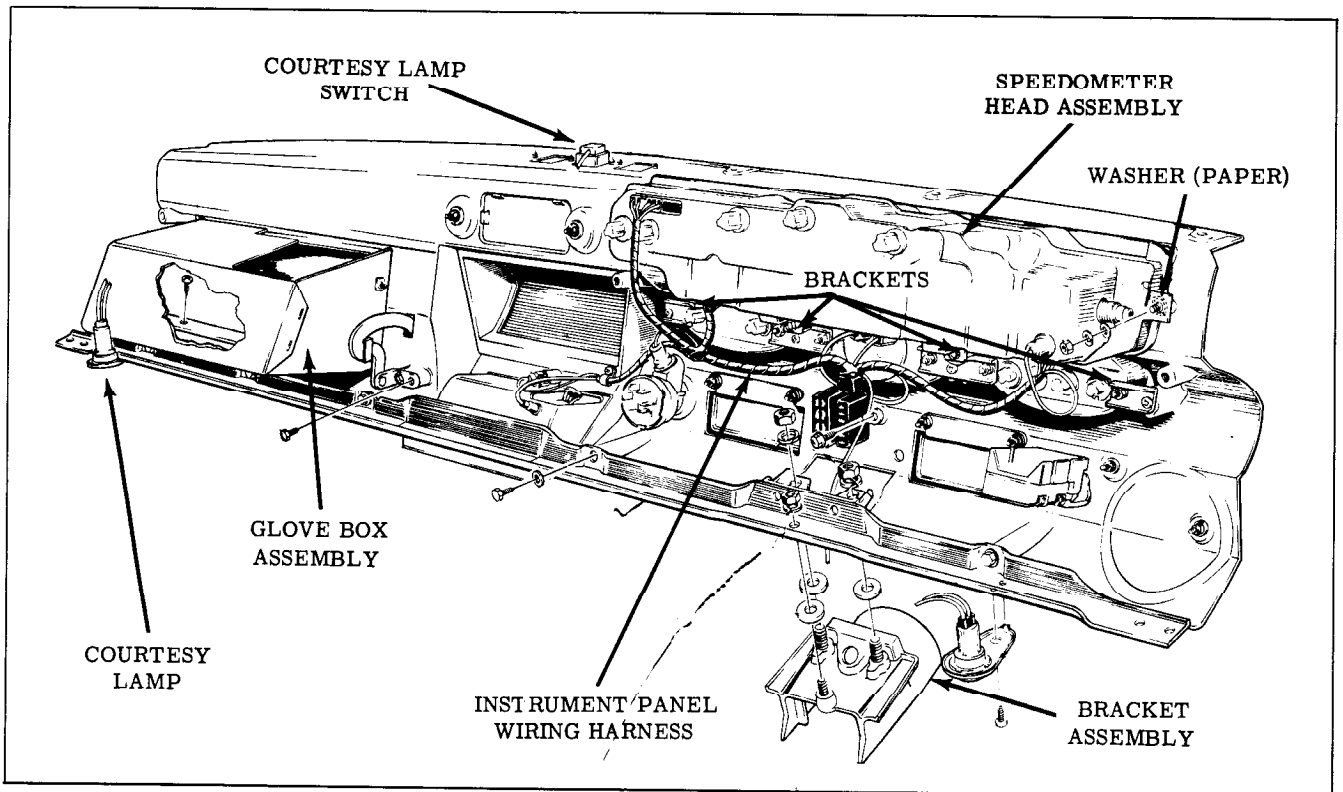

Fig. 15-3 Speedometer Head Assembly
3. Remove the 2 speedometer head assembly mounting nuts and rotate the top of the assembly downward. (Fig. 15-3) DO NOT DAMAGE PRINTED CIRCUIT.